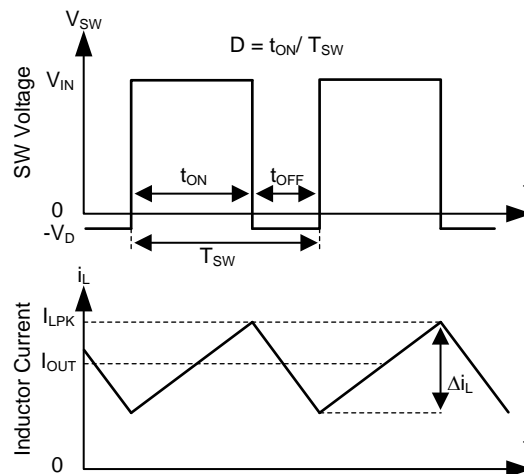

Figure 13. SW Node and Inductor Current Waveforms in Continuous Conduction Mode (CCM)
The following operating description of the LMR23615 refers to the Functional Block Diagram and to the waveforms in Figure 13. The LMR23615 device is a step-down, synchronous buck regulator with integrated high-side (HS) and low-side (LS) switches (synchronous rectifier). The LMR23615 supplies a regulated output voltage by turning on the HS and LS NMOS switches with controlled duty cycle. During high-side switch ON time, the SW pin voltage swings up to approximately V_{IN} , and the inductor current i_L increase with linear slope $(V_{IN} - V_{OUT}) / L$. When the HS switch is turned off by the control logic, the LS switch is turned on after an anti-shoot-through dead time. Inductor current discharges through the LS switch with a slope of $-V_{OUT} / L$. The control parameter of a buck converter is defined as duty cycle $D = t_{ON} / T_{SW}$, where t_{ON} is the high-side switch ON time and T_{SW} is the switching period. The regulator control loop maintains a constant output voltage by adjusting the duty cycle D . In an ideal buck converter, where losses are ignored, D is proportional to the output voltage and inversely proportional to the input voltage: $D = V_{OUT} / V_{IN}$.